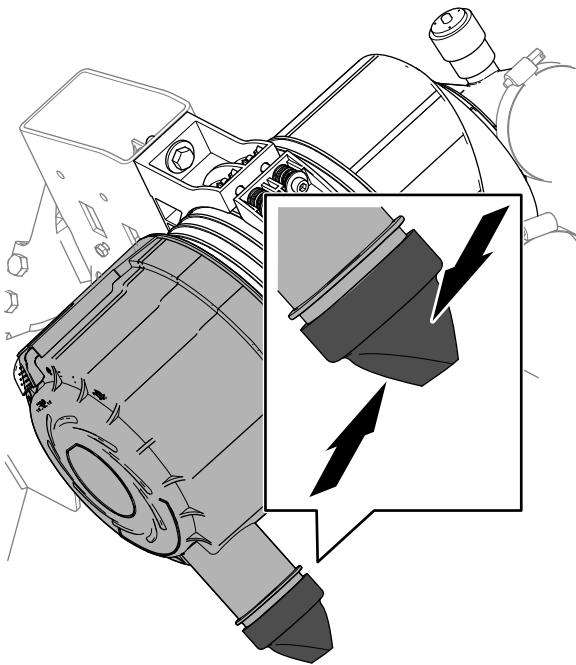

Figure 107
4. Squeeze the dust-ejector valve (Figure 107).